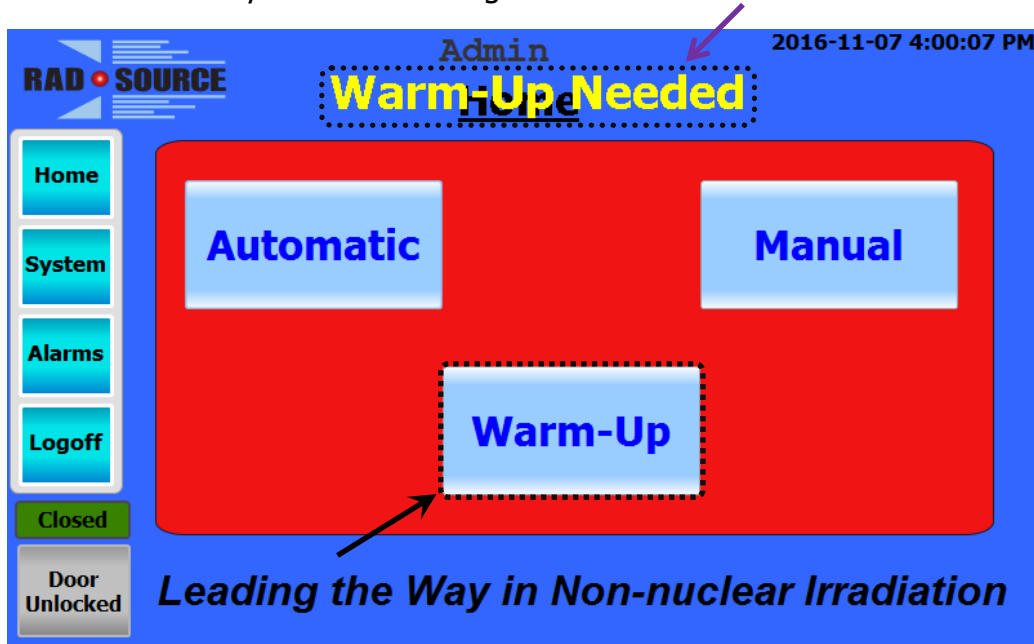

Figure 32: Warm-Up Needed
1. An indication will appear if a warm-up is needed. (See Fig. 32.)
1. Press the *Home* button. Select *Automatic*. (See Fig. 32.)
- Press *Home*, then *Automatic*, or, in *Automatic*, press *Refresh*. (See Fig. 32 and 45.)